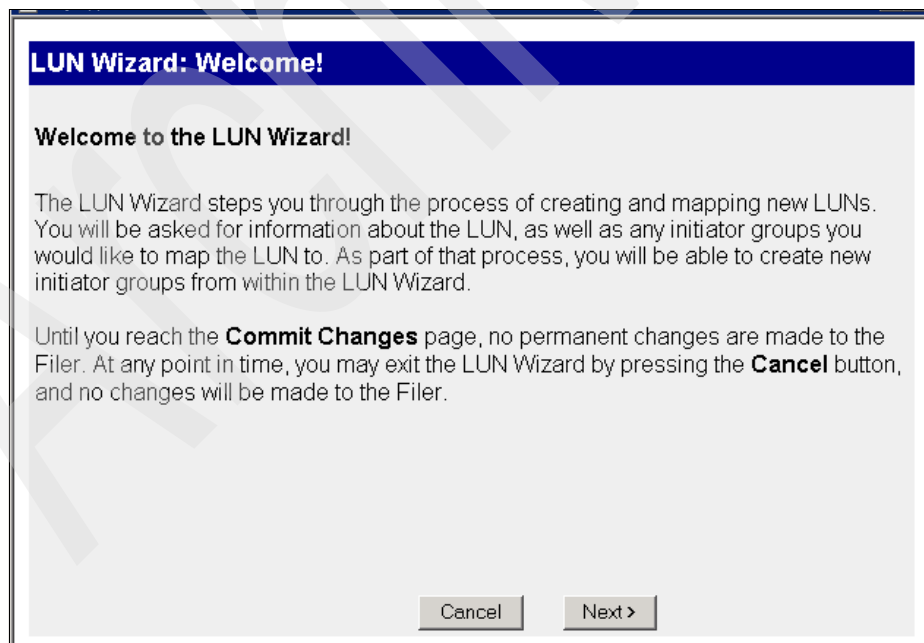

Figure 10-7 LUN Setup Wizard
- ▶ **LUNs → Wizard:** Helps you to create and map new LUNs and create new initiator groups. It is the same as **Wizard → LUN Wizard**. Figure 10-7 on page 358 is a LUN Wizard Welcome page in FilerView.
- ▶ **Wizards → LUN Wizard:** Helps you to create and map new LUNs and create new initiator groups, as shown in Figure 10-7. It is the same as **LUNs → Wizard**.